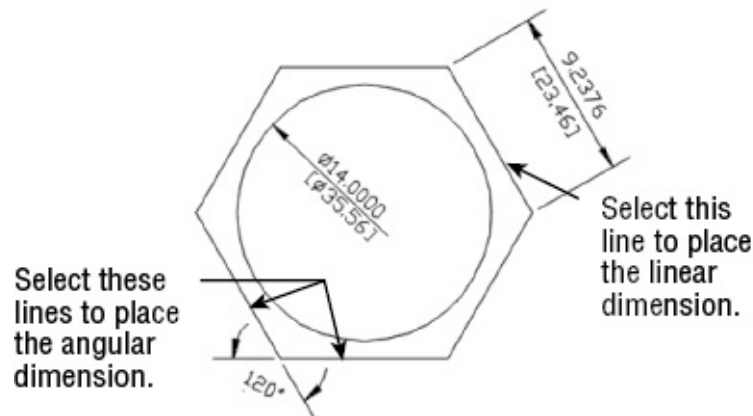

FIGURE 11.35 Use the Dimension tool to select objects to be dimensioned.
2. Click the Dimension tool, or type **DIM**↵, and then hover over the line in the upper-right side of the hexagon (see Figure 11.35).
4. Click again to place the dimension, as shown in Figure 11.35.
8. Click the bottommost line of the hexagon, and then click the lower-left line of the hexagon (see Figure 11.35). A temporary angular dimension appears.